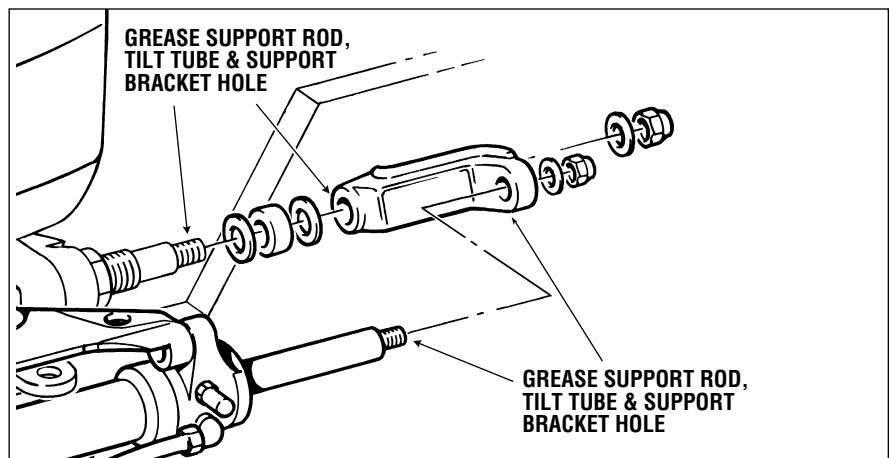

Figure 37.
4. Grease all contact points shown in Figure 37. DO NOT remove tiller bolt to re-grease.